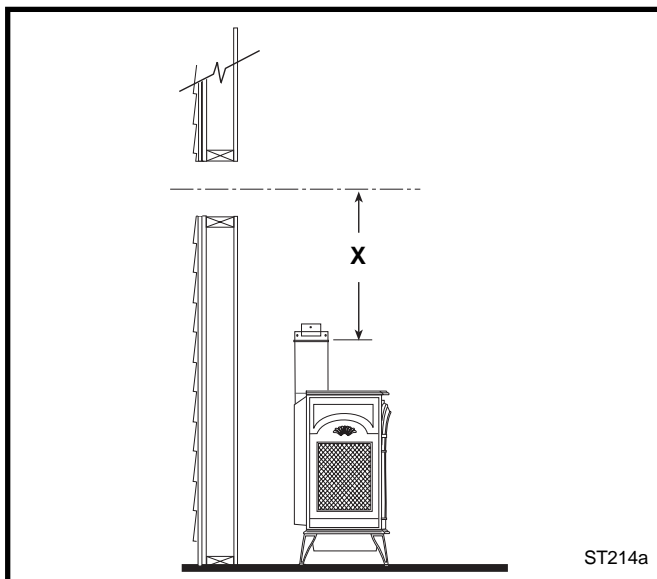

Fig. 30 Determine the vertical pipe length.
4. For CFM Vent Pipe only: If necessary, measure to determine the vertical length (X) of pipe required from the adapter pipe to the wall cutout centerline, including a 2" overlap at the joint. (Fig. 30) use a hacksaw or tin snips to trim the pipe as needed.